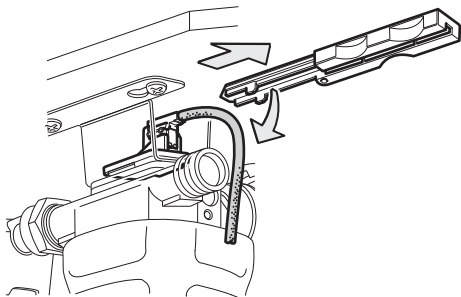

Fig. 10
- ▶ When the cable is free, remove the installation aid. The transmitter remains in the support. (Fig. 10).